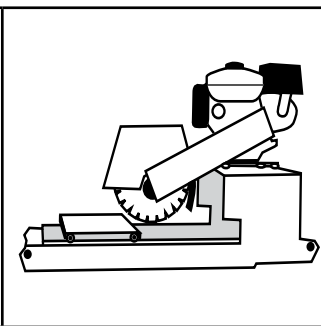

Figure 25. Table Saw
- **Table Saws (Diamond Blade).** (Figure 25) They provide precision cutting, but lack mobility so can be time-consuming. Most saws can run either wet or dry. When water is used, it provides lubrication and reduces wear on the blade. If water is supplied to the saw, anticipating a nearby faucet in planning the job will save delays and money. If possible, use clean water and do not recirculate it as it will likely stain the pavers.